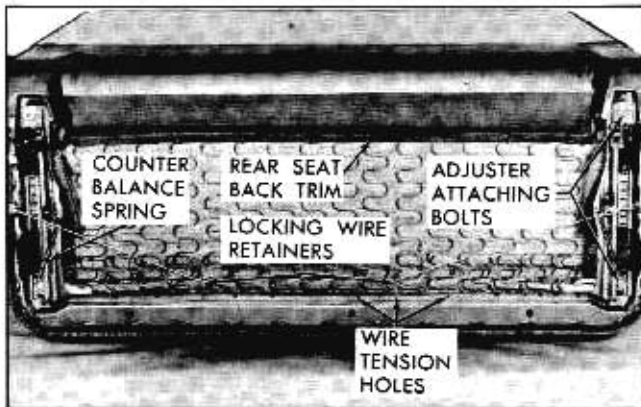

Fig. 10A-66 Front Seat Adjuster Removal
2. Remove seat adjuster counter balance spring attached to seat adjuster front support and seat bottom frame as shown in Fig. 10A-66.
5. Remove adjuster-to-seat bottom frame front and rear attaching bolts shown in Fig. 10A-66 and remove seat adjuster from seat assembly.